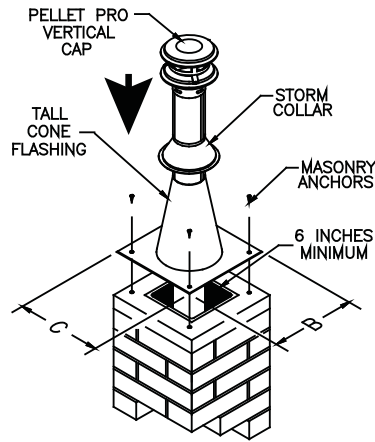
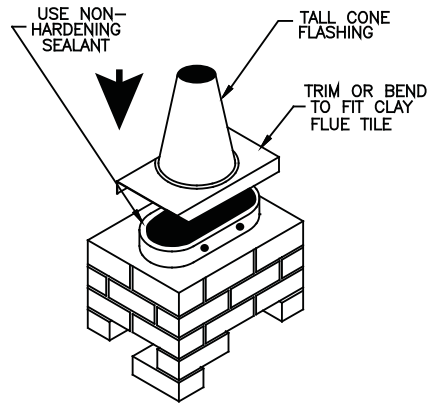

Figure 23
Figure 25
11. For support at the termination of the PelletVent, use a Tall Cone Flashing, and a Storm Collar. This will require 14 inches of pipe above the top of the masonry chimney. Pull the pipe up through the flashing to the desired height. Mark location of the Storm Collar. Slip the Storm Collar down over the pipe and affix it to the pipe with a 1/4"-long stainless steel sheet metal screw (Figures 23 & 24). The Storm Collar will then support the entire vent system. Install the Cap. Seal the joint at the Storm Collar, and any other joints or seams which may appear suspect. (Figure 25) shows a Tall Cone Flashing modified to fit a chimney where the tile liner protrudes above the masonry, as another alternate termination technique. This completes the masonry